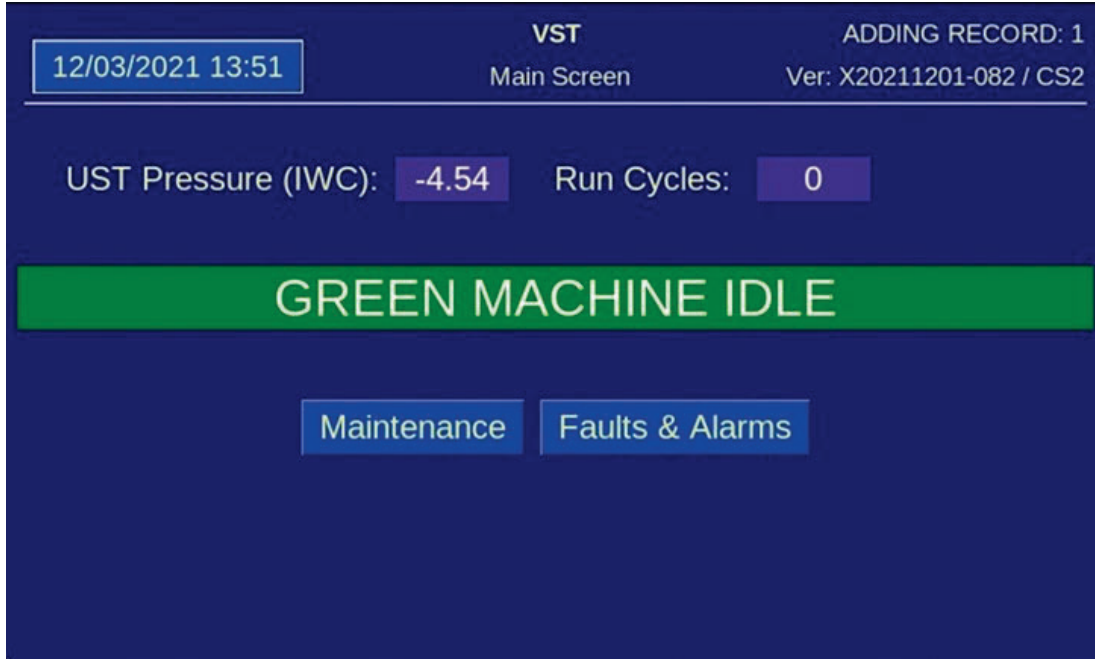

Figure 7-1: VST PLC Main Screen w/no Alarms
1. At the VST Control Panel Main Screen, check to make sure there are no alarms. **See Figure 7-1.**
5. At the VST Control Panel PLC Main Screen, make sure the Pressure reading is 0.0 +/- 0.10 IWC. **See Figure 7-1.**